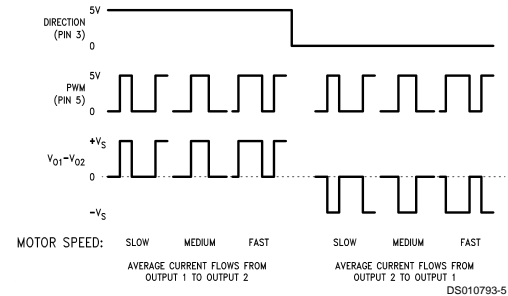

FIGURE 3. Sign/Magnitude PWM Control
**Sign/magnitude PWM** consists of separate direction (sign) and amplitude (magnitude) signals (see *Figure 3*). The (absolute) magnitude signal is duty-cycle modulated, and the absence of a pulse signal (a continuous logic low level) represents zero drive. Current delivered to the load is proportional to pulse width. For the LMD18201, the DIRECTION input (pin 3) is driven by the sign signal and the PWM input (pin 5) is driven by the magnitude signal.